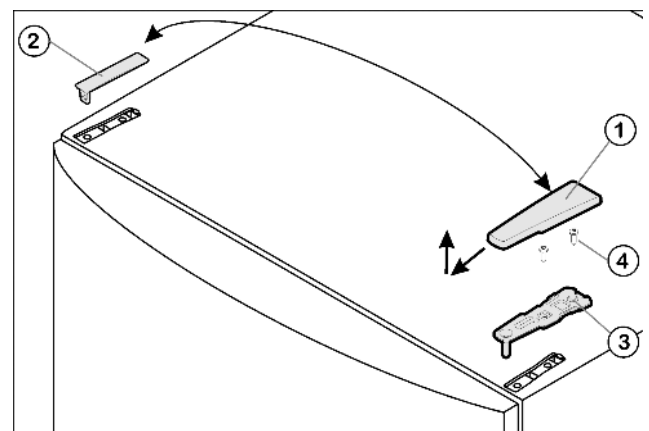

Fig. 4
- ▶ Pull off the cover Fig. 4 (1) forwards and upwards.
- ▶ Lift off the cover Fig. 4 (2).
- ▶ Unscrew the upper turn hinge Fig. 4 (3) (2x Torx® 25) Fig. 4 (4) and lift it off.
- ▶ Insert the upper turn hinge *Fig. 4 (3)* in the door on the new hinge side.
- ▶ Screw the upper turn hinge **firmly** into place (**with 4 Nm**) (2x Torx® 25) *Fig. 4 (4)*. Possibly make preliminary holes with a bradawl or use a cordless screwdriver.
- ▶ Apply the cover *Fig. 4 (1)* and cover *Fig. 4 (2)* to the opposite side from the outside and snap them into place.